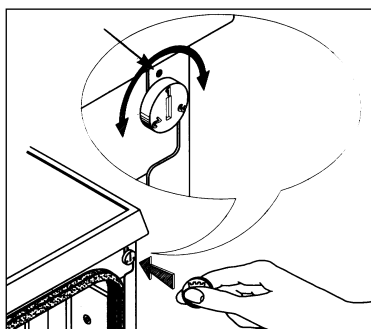

fig. 4a
- in some models you'll find it on the right top hand side (fig. 4a),